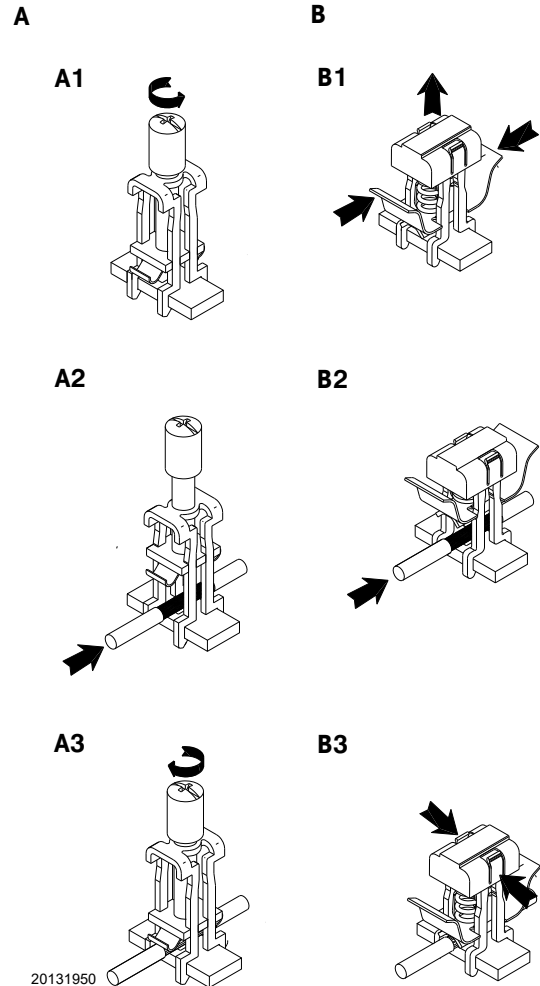

Fig. 24
- unscrew the screw until space is created for inserting the shielding of the shielded cable A1)(Fig. 24);
- pull the indicated tabs upwards and lift until locked in the open position B1)(Fig. 24);